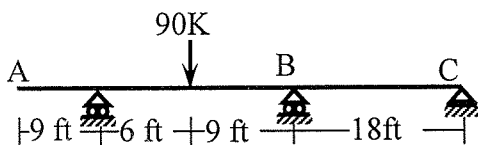

Fig.3
3. Analyze the Beam shown in **Fig.3** by Force Method and determine the reactions and draw the bending moment diagram. Consider the vertical reaction at **C** as redundant [EI=Constant]. [12]